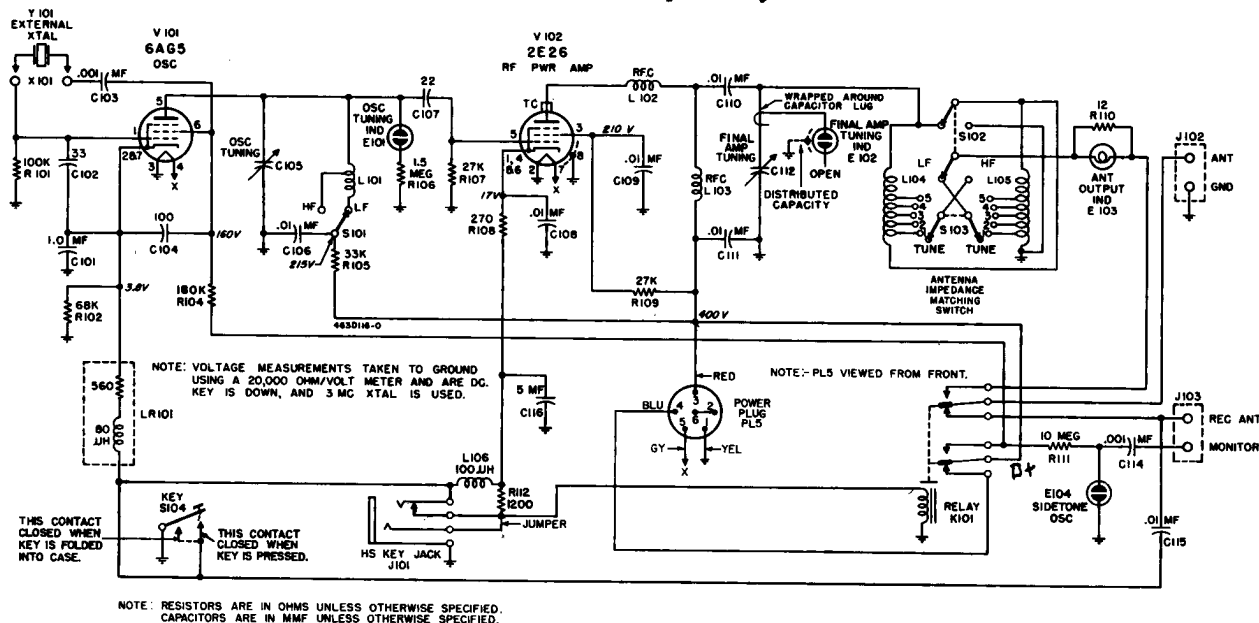

Figure 18. Transmitter RT-6, schematic diagram.
28. CIRCUIT DESCRIPTION—(See Schematic, Figure 18)